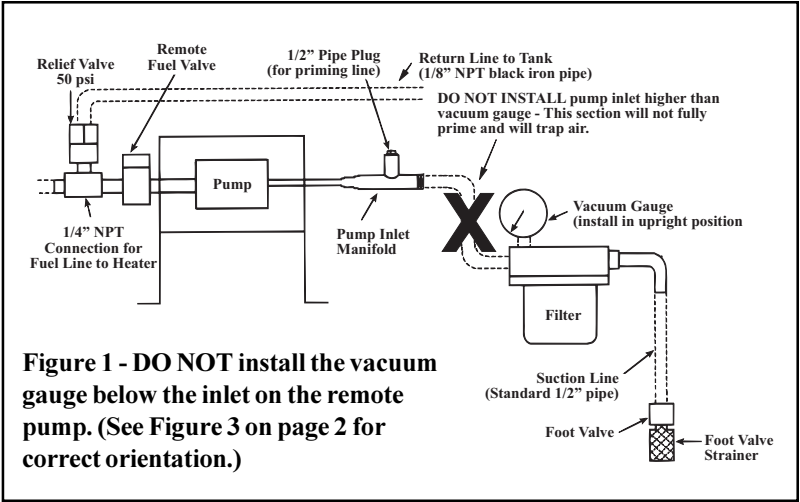

Figure 1 - DO NOT install the vacuum gauge below the inlet on the remote pump. (See Figure 3 on page 2 for correct orientation.)
- DO NOT install the suction line vacuum gauge tee lower than the pump inlet. See Figure 1.